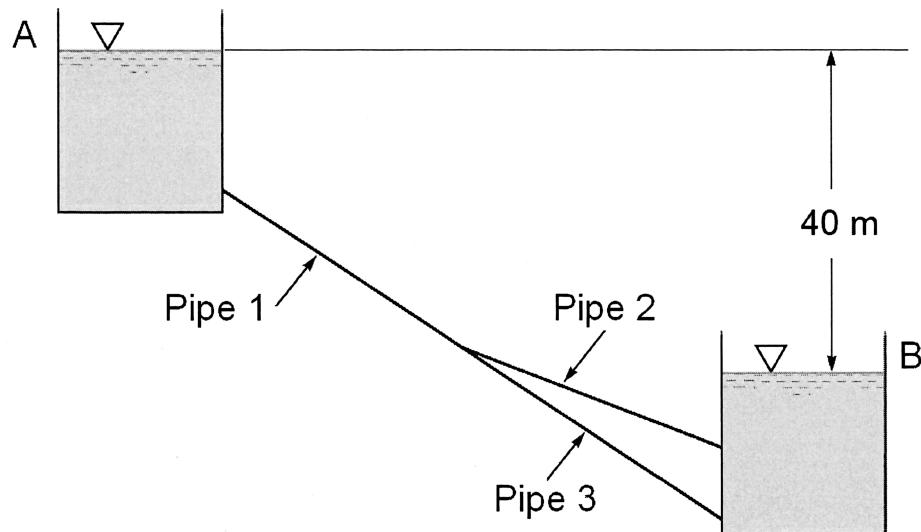

Figure 4
- (b) Water flows from reservoir A to another reservoir B through pipes 1, 2 and 3 as shown in Figure 4. The elevations of the free surface of reservoirs A and B are 40 m and 0 m respectively. It is noted that the total losses of each pipe can be represented by kQ^2 where k is the overall loss coefficient and Q is the flow rate in that pipe. The values of k of each pipe are given below:
Note: Figure 4 appears on page 5.